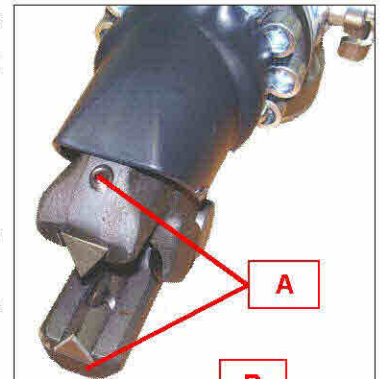

Fig. 5
Place the machine horizontally on a stable work surface and manually remove the blades after loosening the two lock screws (A) indicated in fig. 5.